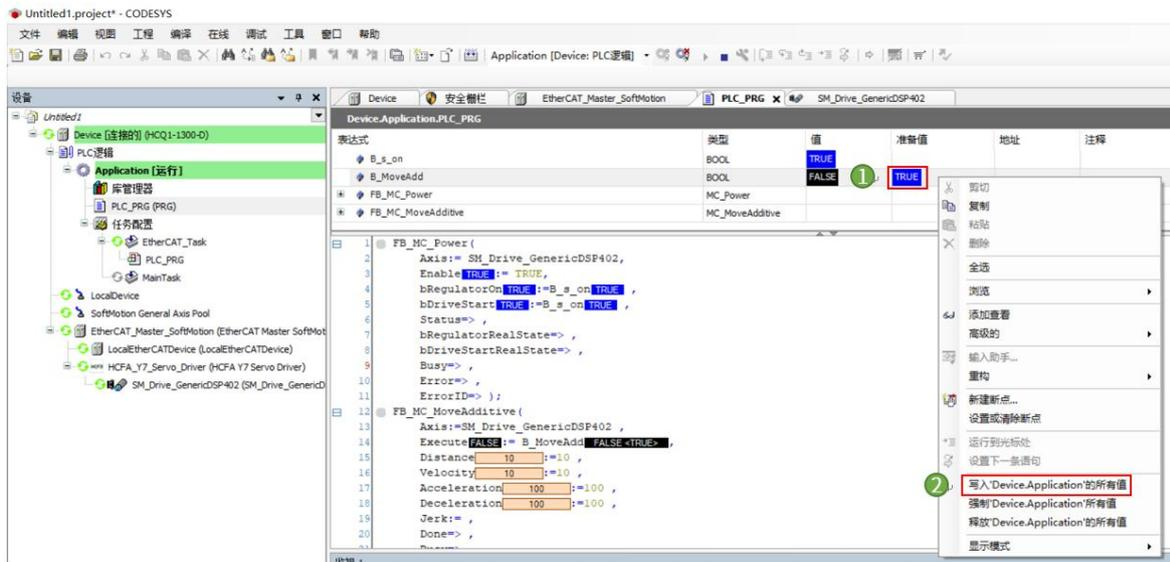

Figure 13-21 Test run
3. In the same way, as shown in Figure 13-21, after operating the B\_Moveadd variable, the motor rotates forward one revolution. So far, the test run of the servo motor is completed.